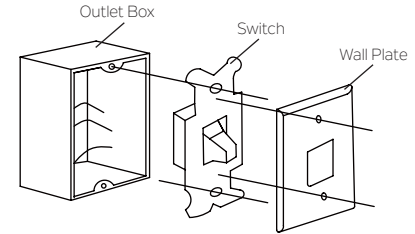

Fig. 15
Step 1. Remove the existing wall plate and switch from the wall outlet box. Disconnect wires from existing switch. (Fig. 15)